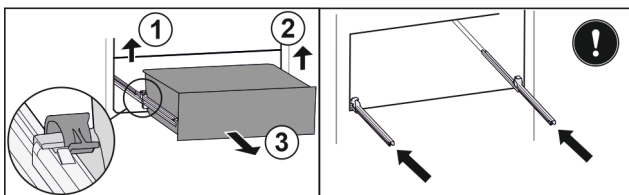

Fig. 26*
- ▶ Lift the left clamp and simultaneously pull the drawer on the left to the front Fig. 26 (1).*
- ▶ Lift the right clamp and simultaneously pull the drawer on the right to the front Fig. 26 (2).*
- ▶ Remove the drawer to the front Fig. 26 (3).*